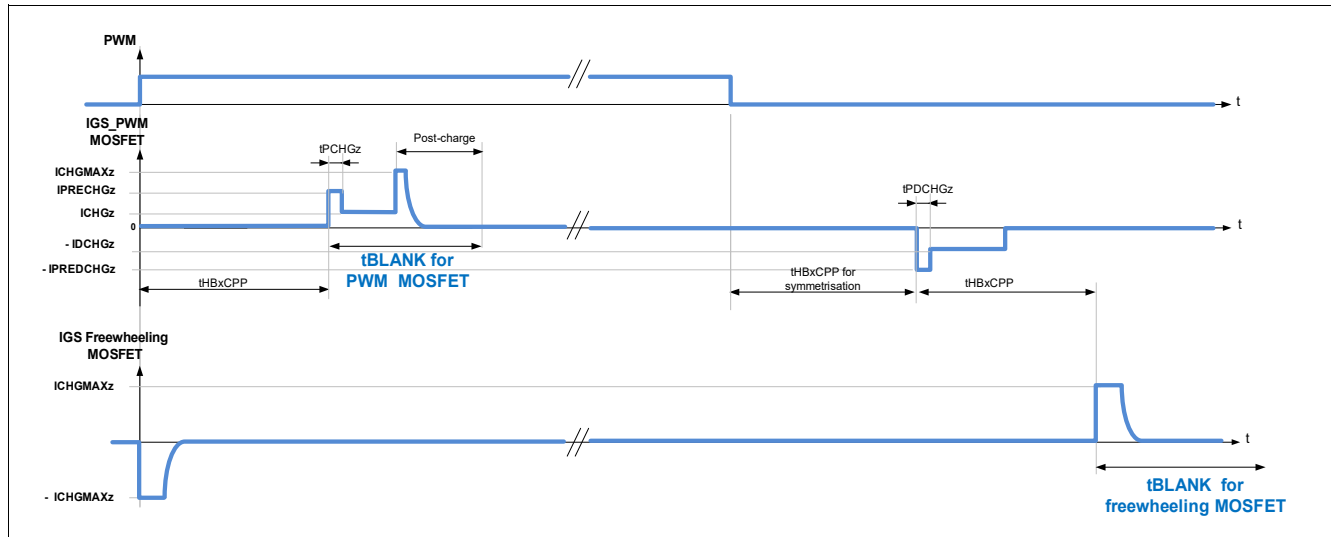

Figure 82 Blank time for half-bridges in PWM operation with $AFW = 1$
- the blank time of the PWM MOSFET starts at the expiration of the cross-current protection time of the PWM MOSFET. Refer to Figure 82.
- the blank time of the free-wheeling MOSFET starts after expiration of the cross-current protection time at turn-off of the PWM MOSFET. Refer to Figure 82.